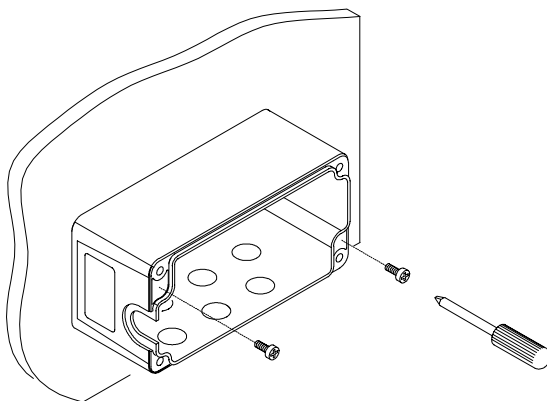

Figure 5 - Junction box mounting
- 2) Align the junction box and insert the two self-threading screws with their washers and screw them into the panel until tight (see Figure 5).